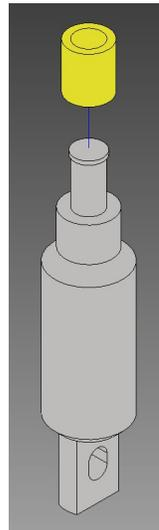

FIGURE F. 8. - INDICATOR REMOVAL
8. OPTIONAL – If required, remove the indicator (see Figure F.8.). Typically, this is only required if indicator needs to be replaced.